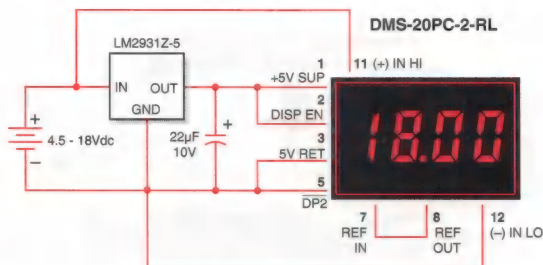

Figure 8. 4.5V-18V Power Supply Monitor
6. **Power Supply Monitoring:** One of the most common digital panel meter applications involves monitoring the output voltage of the system power supply — often this supply also powers the meter itself. The low-power, red LED DMS-20PC-2-RL can be configured to allow power supply monitoring over the range of 4.5-18Vdc. The circuit in Figure 8 uses a low-drop-out, three-terminal regulator (LM-2931Z-5, available from National Semiconductor) to provide regulated 5V-power to the meter.